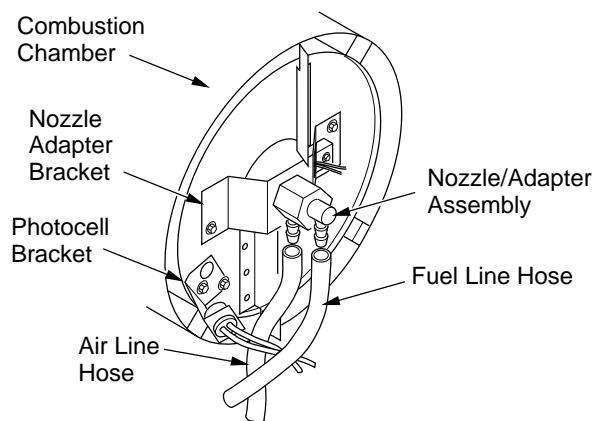
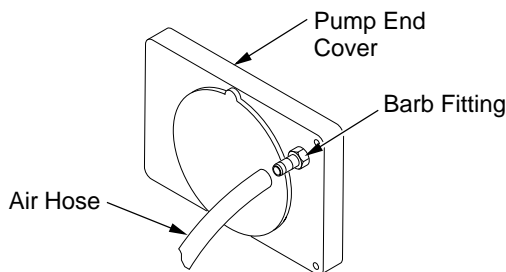

Figure 17 - Removing Air and Fuel Line Hoses (Model GK20 Only)
Figure 21 - Air Hose to Barb Fitting
14. Replace photocell in photocell bracket. Route wires as shown in either Figure 17 or 18, page 11.
3. Remove fuel and air line hoses from nozzle assembly (see Figure 17 or 18).
4. Inspect fuel and air line hoses for cracks and/or holes. If fuel line hose is damaged, disconnect from nozzle adapter (see Figure 17 or 18, page 11) and from fuel filter (see page 8). If air line hose is damaged, disconnect from nozzle adapter (see Figure 17 or 18, page 11) and from barb fitting on pump end cover (see Figure 21).
5. Install new air and/or fuel line. Attach one end of air line hose to barb fitting on pump end cover (see Figure 21) and the other end to nozzle adapter (see Figure 17 or 18, page 11). Attach one end of fuel line hose to fuel filter (see page 8) and the other end to nozzle adapter (see Figure 17 or 18, page 11).
For GK20 model heaters, route air and fuel lines approximately as shown in Figure 17, page 11.